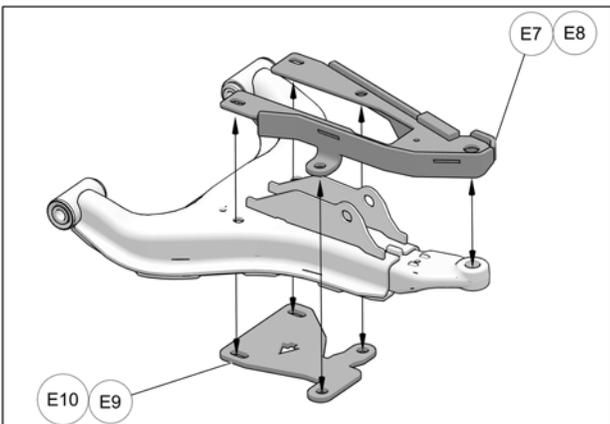

Fig. 15
6. Install Stiffener bracket (**E7-E8**) over upper a-arm with bottom plate (**E9-E10**) as shown in Fig. 15